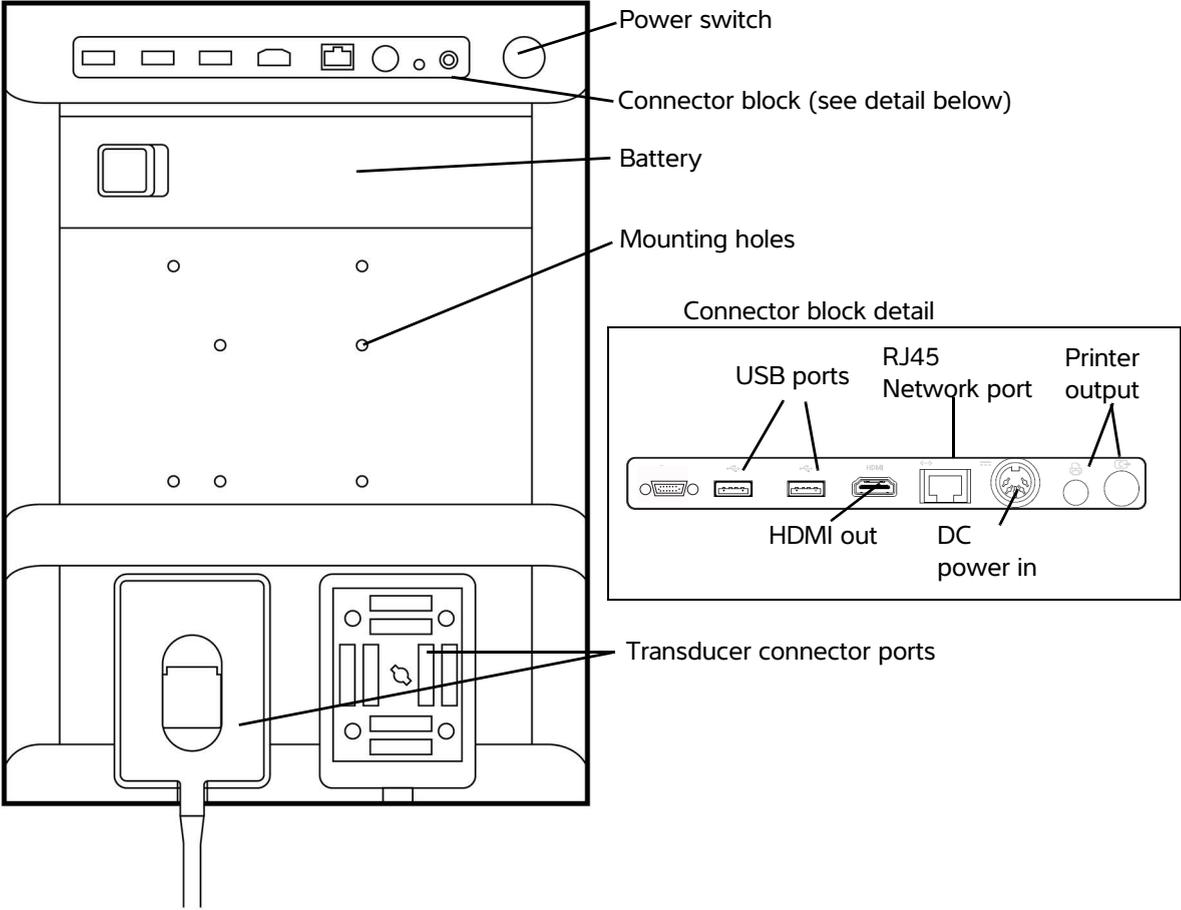

Figure 2-1 System Back
- 1 Turn the system on. For power switch location, refer to Figure 2-1 on page 2-2.
The back of the system has compartments for the battery and two transducers as well as connectors for USB devices, power cord, network cable, and more. Refer to Figure 2-1.
- 1 Connect the DC power cable from the power supply to the power connector on the system. Refer to Figure 2-1 on page 2-2.
- ❖ Press the power switch. Refer to Figure 2-1 on page 2-2.
Insert the USB storage device into a USB port on the system. Refer to Figure 2-1 on page 2-2. The USB storage device is ready when the USB icon appears.